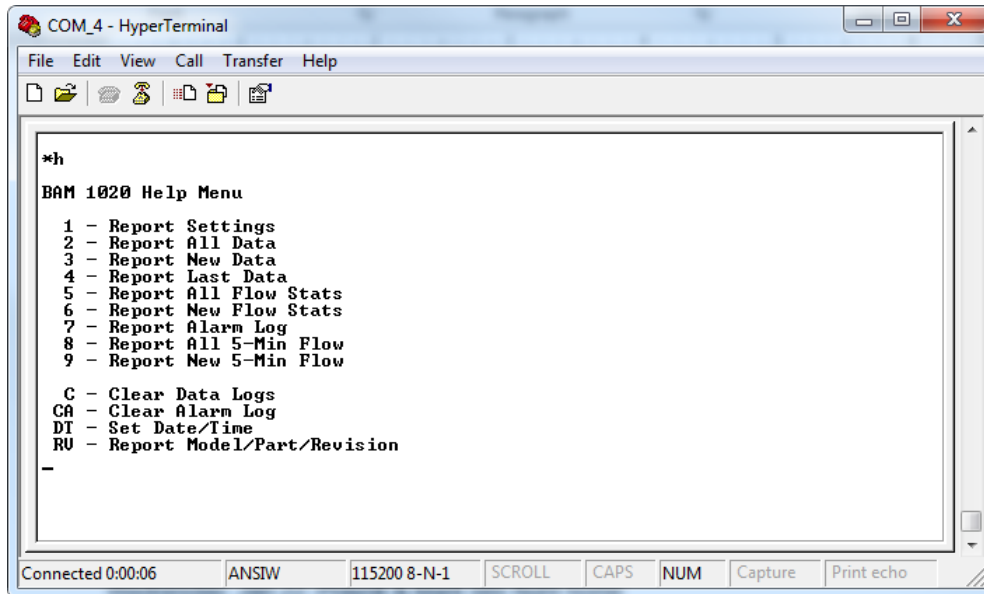

Figure 7-5 Terminal Window Showing the BAM 1020 Menu
6. Once communication is established, press the **h** key followed by the **Enter** key. This should cause the BAM 1020 System Menu to appear on the window as shown in Figure 7-5. Sending any of the ASCII characters shown in the menu will perform the described action, such as retrieve the data files. The menu options are described in Section 5.
Once a serial connection between a terminal program and the BAM 1020 has been established as shown in Figure 7-5, access is available to the BAM 1020 Help Menu. The common commands are listed. Enter the command characters followed by the **Enter** key. The command descriptions follow.